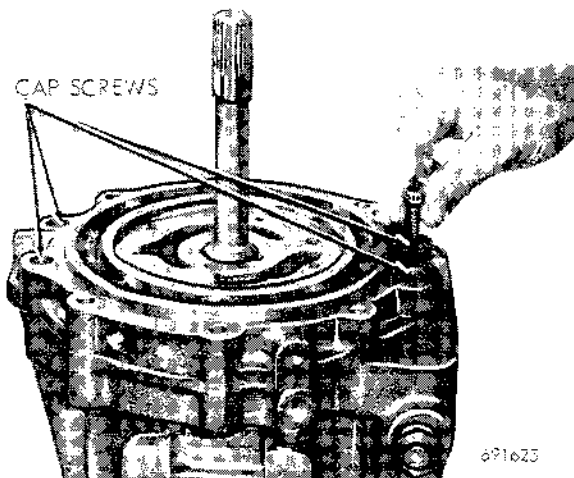
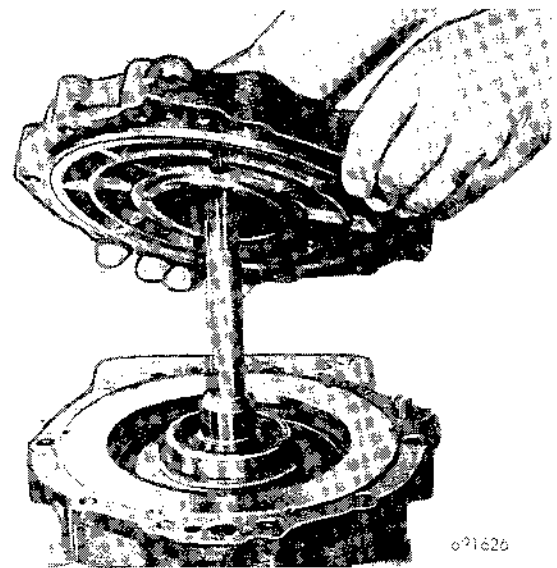

Figure 9
Figure 10
4. Remove the four cap screws which secure the adapter to the shuttle case, Figure 9. Then remove the adapter and reverse piston assembly from the shuttle case, Figure 10. Use care when removing the adapter as the reverse clutch pressure plate may stick to reverse piston. Prevent the pressure plate from dropping and causing needless damage.